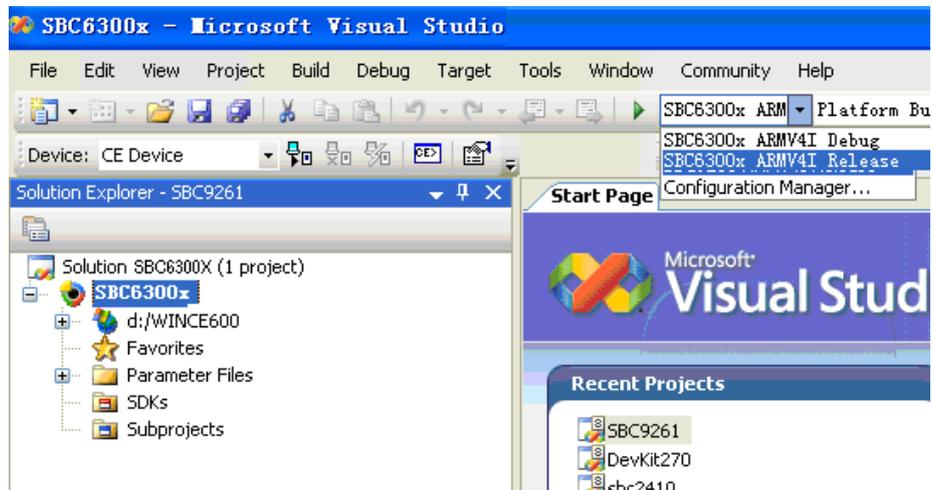

Figure 6.12
13. Set compilation type as SBC6300X ARMV4I Release, see Figure 6.12: